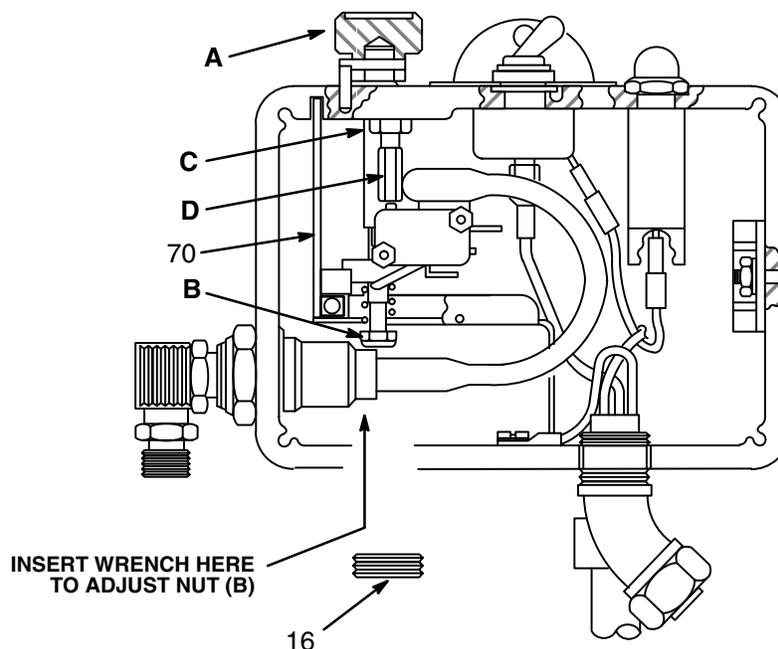

Fig 27-1
**NOTE:** For Steps 7 through 18, refer to Fig 27-1.
7. Turn the pressure control knob (A) to the *minimum* setting (fully counterclockwise), and turn the sprayer **ON**. **THE DISPLACEMENT PUMP SHOULD NOT CYCLE**
**If it does cycle**, remove the plug (16) from the bottom of the pressure control. Insert a 3/8 in. nut driver through the opening, and unscrew the pressure adjustment nut (B) just until the sprayer stops running.